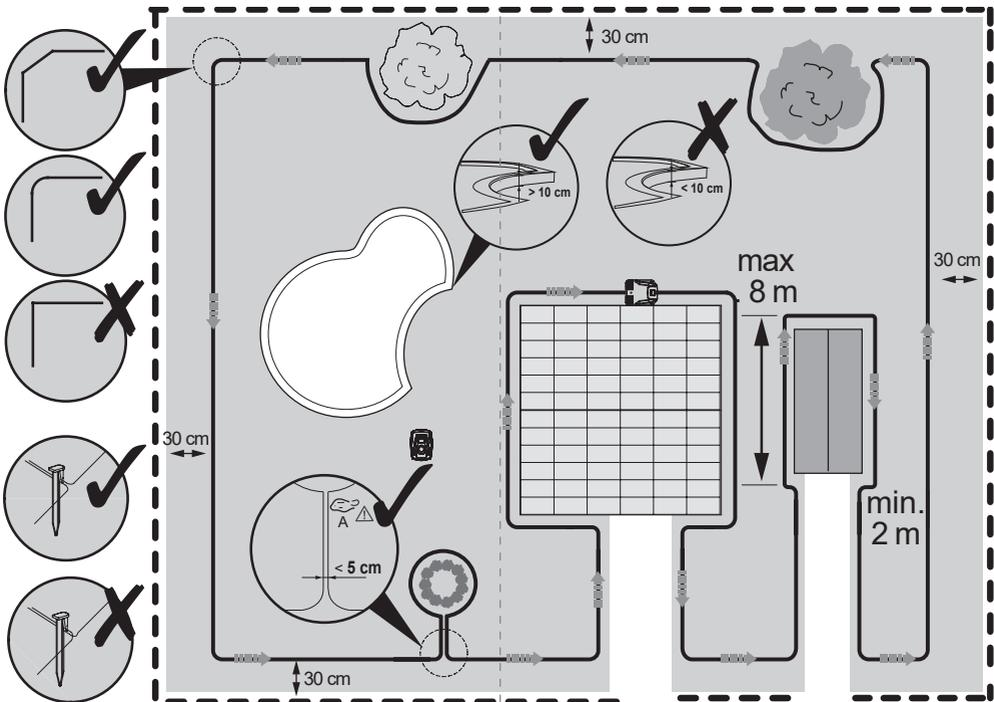

Fig. 2
- Consider the size and shape of the lawn, ensuring that garden ponds, trees, flowerbeds, garden furniture or other obstacles are excluded from the mowing area (Fig. 2).